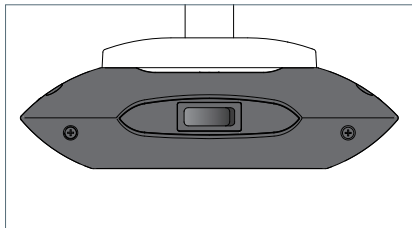

Fig. 15: Button.
- Press the button, see Fig. 15.
- Press the button and keep it pressed, see Fig. 15.